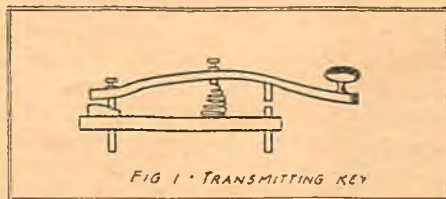

FIG 1 - TRANSMITTING KEY
**I**F a sheet of paper is placed over the length of a magnet and iron filings are scattered lightly on it, the small particles will be found to form themselves into a very definite pattern. On the other hand, if a finely balanced iron needle is moved from end to end of a magnet, the needle will be found to trace a curved path which leaves one end of the magnet and curves symmetrically to the other end. (See Fig. 1.)
Figure 1 shows a conventional type of telegraph key. A simple type has been shown in order that its mode of operation may be explained easily. The two screws at the top are adjusting screws for adjusting the gap between the points, and these may be operated so as either to increase or decrease the gap.